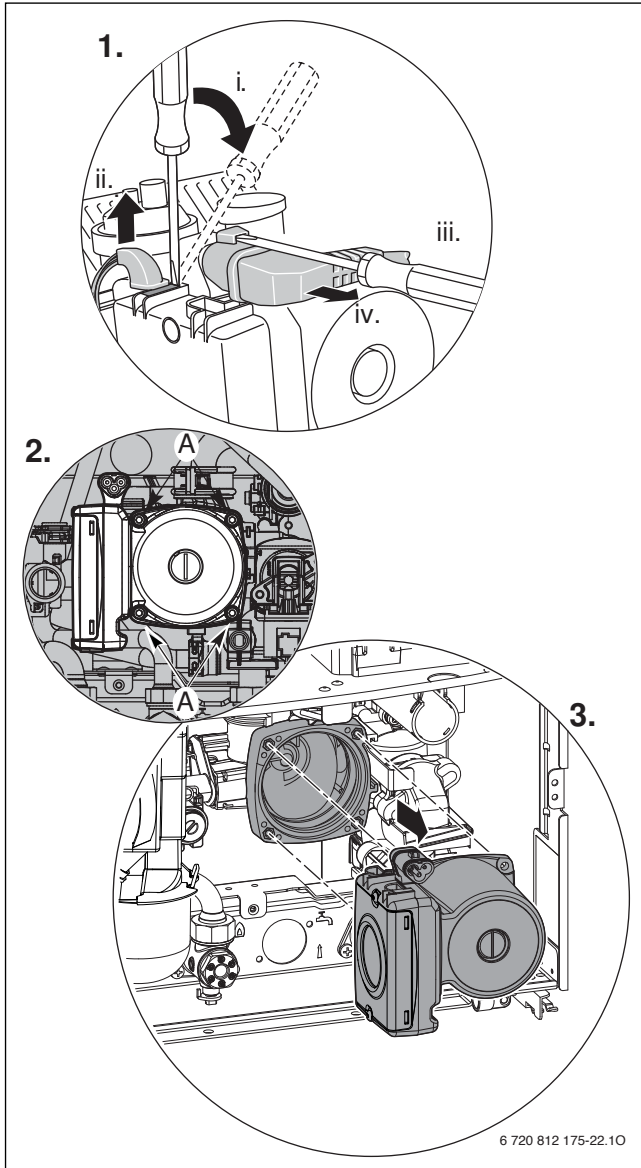

Fig. 92
- i. (See Fig. 92)
- ii. (See Fig. 92)
- iii. (See Fig. 92)
- iv. (See Fig. 92)
- 2. Remove the four Allen bolts (A) securing the pump at each corner.